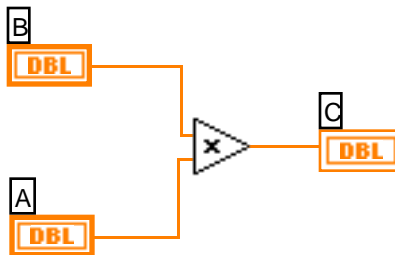

Figure 3-2. Program for Multiplying Two Numbers and Displaying the Result
LabVIEW programming consists of drawing pictures that specify data dependencies. The LabVIEW programming environment includes a large set of blocks to specify operations and a Wiring tool to connect them together. As an example, Figure 3-2 below shows the operation of multiplying two numbers and displaying the result.
A LabVIEW program, called a virtual instrument (VI), is a two-window system. The code is in one window and the user interface (inputs and outputs) appear in a separate window. The program window is the diagram window, and the user inputs and outputs are in the front panel window. Figure 3-2 shows a sample program that would appear in the diagram window. The numbers are entered into the computer and displayed in the panel window shown in Figure 3-3. The two boxes on the left (labeled **A** and **B**) are controls, and the box on the right (labeled **C**) is the output or indicator. (The **X** and **=** are only displays showing the operation of the VI and not inputs or outputs.) The three boxes are associated with like labeled boxes in the diagram window shown in Figure 3-2.